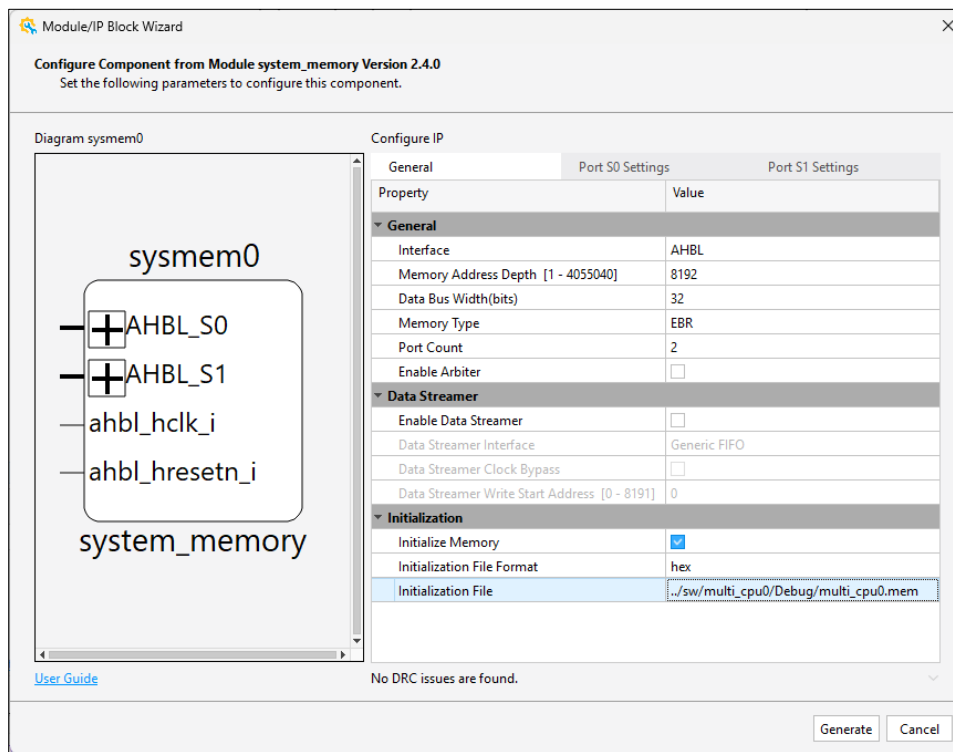

Figure 4.12. Lattice Propel Builder – Initialize System Memory with .mem Files
12. Initialize System Memory in Lattice Propel Builder (Figure 4.12).